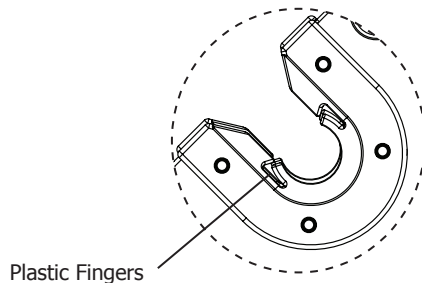

Fig. 8-2
**Note:** The poles will snap past the plastic fingers, which are shown in Fig. 8-2.